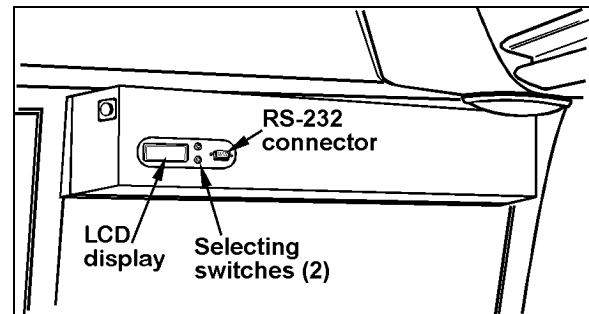

FIGURE 25: DESTINATION SIGN – ELECTRONIC
2. Insert projection at end of "BOBRICK" key into rectangular hole in cover (Fig. 25). Push straight in. While holding "BOBRICK" key in, turn cover counterclockwise about 1/8 turn.